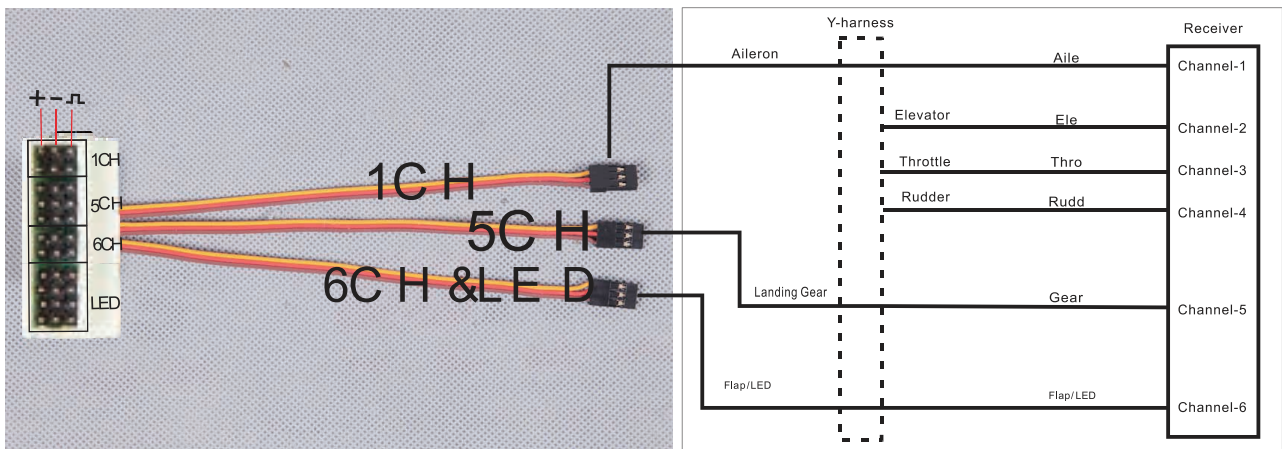

fig.19
- 20) Connect the labeled leads per the receiver connection diagram (fig. 19). There is a Y-harness for the ailerons and a connection board for the retractable gear that must be used to combine the leads prior to making a connection to the receiver (fig. 20).